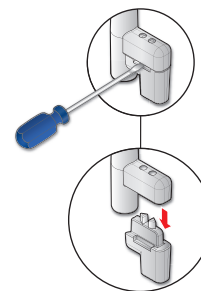

Figure 4. Prying off the locking arm insert
- b. Use a small screwdriver to pry and separate the insert from the locking arm (see figure 4).